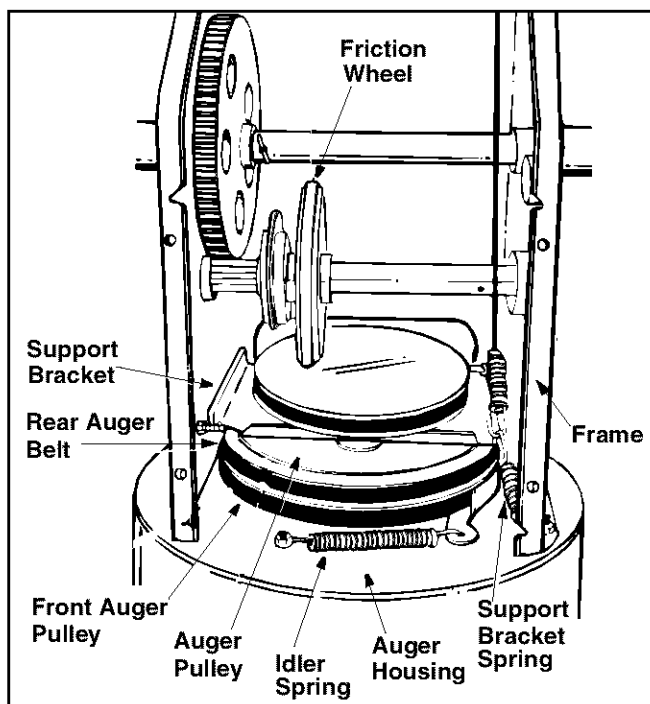

Figure 23
- Unhook the idler spring from the hex bolt on the auger housing. See Figure 23.
- Lift the rear auger belt from the auger pulley, and slip belt between the support bracket and the auger pulley. See Figure 23. Repeat this step for front auger belt (except models 600/610E).